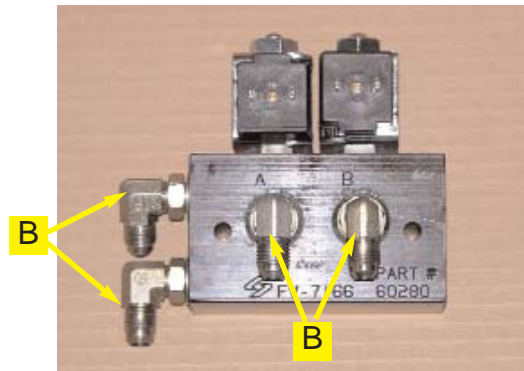

Figure 1a. Prepared Automated Steering Block.
- b. Install the elbow adapter fittings (**B**) in the **P**, **T**, **A**, and **B** ports. (Figure 1a.)